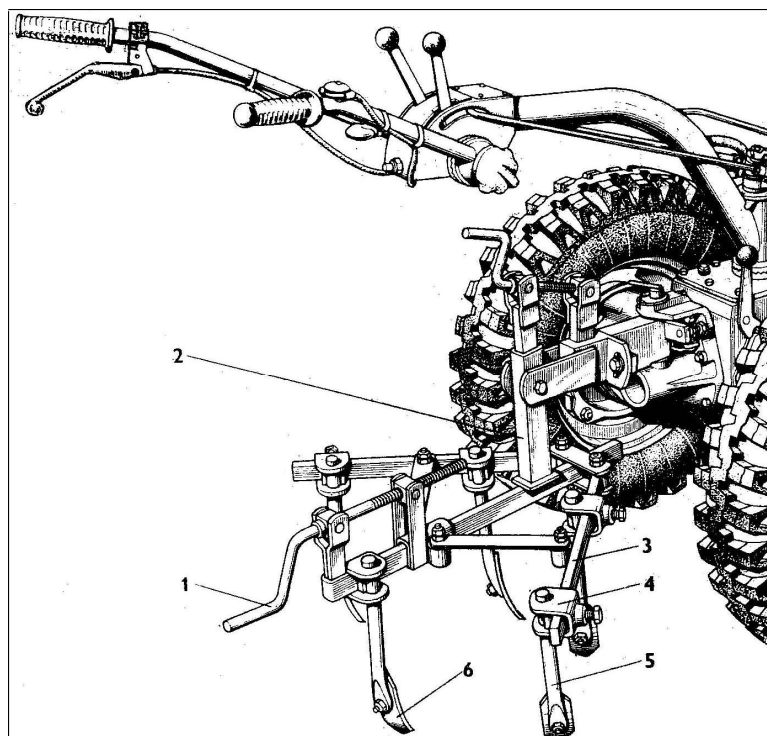

Figure 17 – Two-wheel tractor coupled with cultivator
- 1) Attach a cultivator to the tractor (fig.17).